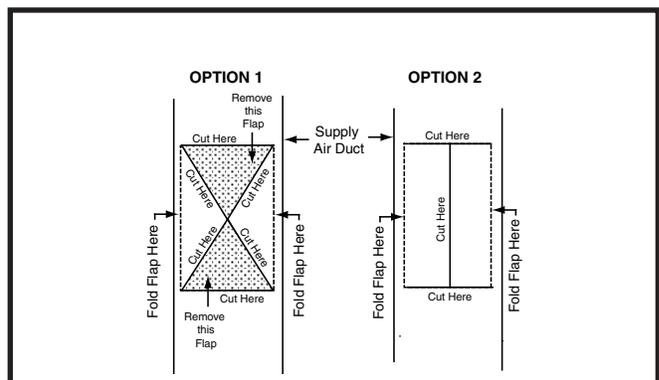

Figure 20. Narrow Air Duct Openings
1. Score and cut the top of the supply air duct as indicated in Option 1 or Option 2 (Figure 20). With Option 1 choice, cut out the metal from the shaded area.